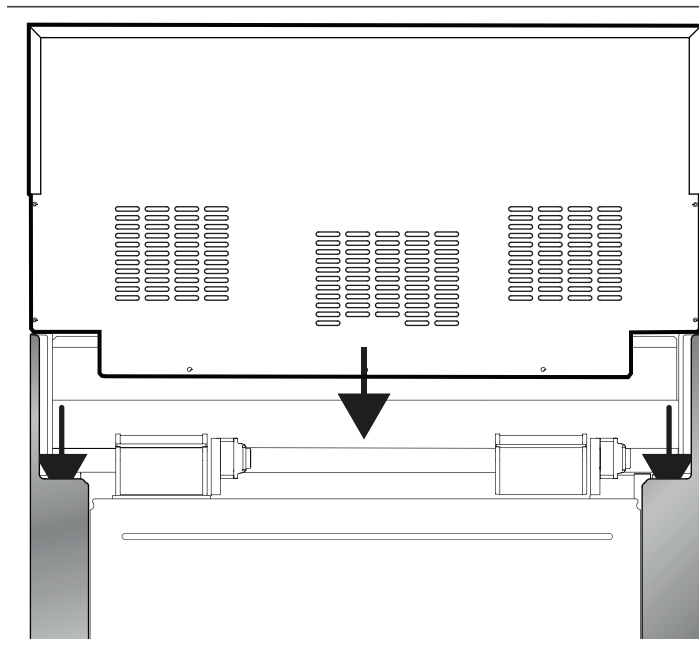

Figure 21: Backguard Installation
- Align the back panel of the new accessory with the flanges on the range side panels right and left rear corners. The backguard is inserted inside the guide channels on the back of the range (*Figure 21*).